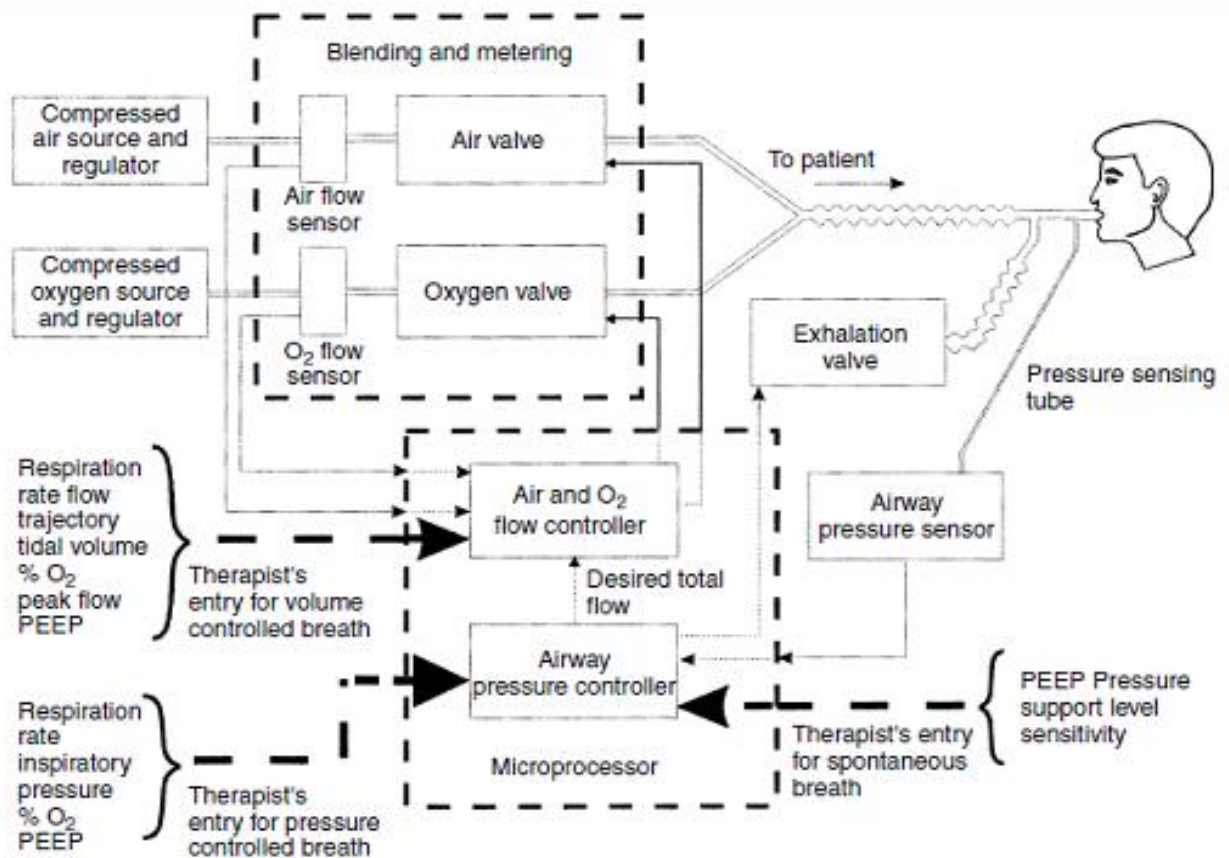

Figure 8, a simplified block diagram of a control structure for mandatory and spontaneous breath delivery
- Figure 8 shows a simplified block diagram for delivering mandatory or spontaneous ventilation.
- In Figure 8, the air and oxygen valves are placed in closed feedback loops with the air and oxygen flow sensors. The microprocessor controls each valves to deliver the desired inspiratory air and oxygen flows for mandatory and spontaneous ventilation. During inhalation, the exhalation valve is closed to direct all the delivered flows to the lungs. When exhalation starts, the microprocessor actuates the exhalation valve to achieve the desired PEEP level.
- The airway pressure sensor, shown on the right side of Figure 8, generates the feedback signal necessary for maintaining the desired PEEP (in both
- That is, the clinician must specify the following parameters for delivery of CMV breaths (1) respiration rate; (2) flow waveform; (3) tidal volume; (4) oxygen concentration (of the delivered breath); (5) peak flow; and (6) PEEP, as shown in Figure 8. It is noted that the PEEP selected by the therapist in the mandatory mode is only used for control of exhalation flow.
- The therapist entry for pressure-controlled ventilation is shown in Figure 8. The total desired flow is generated by a closed loop controller labeled as Airway Pressure Controller.
- The small diameter (~ 5 mm) pressure sensing tube, shown on the right side of Figure 8, pneumatically transmits the pneumatic pressure signal from the patient airway to a pressure transducer placed in the ventilator.
- The desired airway pressure is computed from the therapist entries of PEEP, pressure support level, and sensitivity. The multiple-loop control structure shown in Figure 8 is used to deliver a CPAP or a pressure support breath.